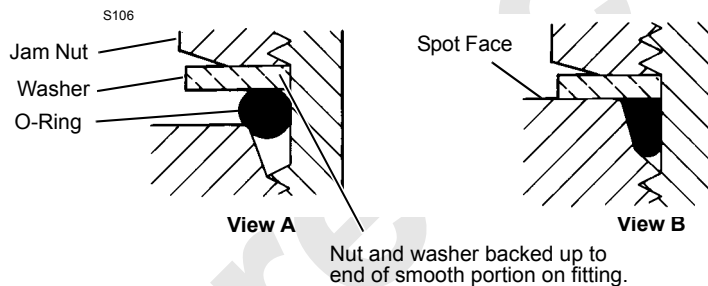

FIGURE 2-4
1. Back up jam nut and washer to end of smooth portion on fitting as shown in Figure 2-4, View A.
3. Thread fitting into port until washer bottoms against spot face as shown in Figure 2-4, View B.
4. Tighten jam nut. When fitting is properly installed, O-ring will completely fill seal cavity and washer will be tight against spot face as shown in Figure 2-4, View B.